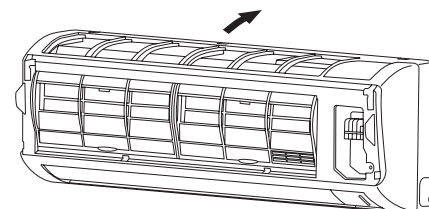

Fig. 2-202
- (1) When installing the grille, place the bottom of the grille into the frame first. (Fig. 2-202)